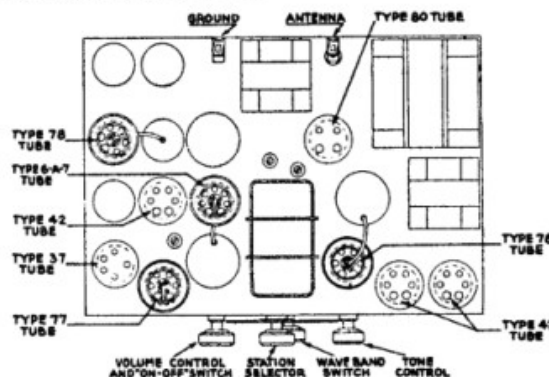

Fig. 1—Top View of Chassis
The intermediate frequency compensating condensers should be adjusted first. The intermediate frequency is 175 kilocycles. The location of these compensating condensers is: (a) 1st. I. F. PRIMARY—(24)—underneath the chassis. May be reached through hole in chassis sub-base to rear, left, of Tuning Condenser Assembly (5). See Figure 1. (b) 1st. I. F. SECONDARY—(25)—at rear of chassis, and accessible therefrom. Mounted near (26) and (27) electrolytic condensers. (c) 2nd. I. F. PRIMARY—(28)—at rear of chassis. Accessible from rear. Mounted next to (29). (d) 2nd. I. F. SECONDARY—(30)—underneath the chassis. Accessible through hole in sub-base, located between Type 42 (Driver) and Type 77 (1st. A. F.). See Figure 1.
Next, the "OSC.; H. F." (13), "DETECTOR" (10), and "ANT.; H. F." (5) compensating condensers should be adjusted in the order given. (13) and (10) are mounted upon the Tuning Condenser Assembly (5). (5) is located underneath the chassis, accessible through hole in sub-base at rear of Tuning Condenser Assembly (5)—between Tuning Condenser and Type 80 (Rectifier). See Figure 1. The signal generator is adjusted to a frequency of 1500 K. C. for (13), to 1400 K. C. for (10) and (5).